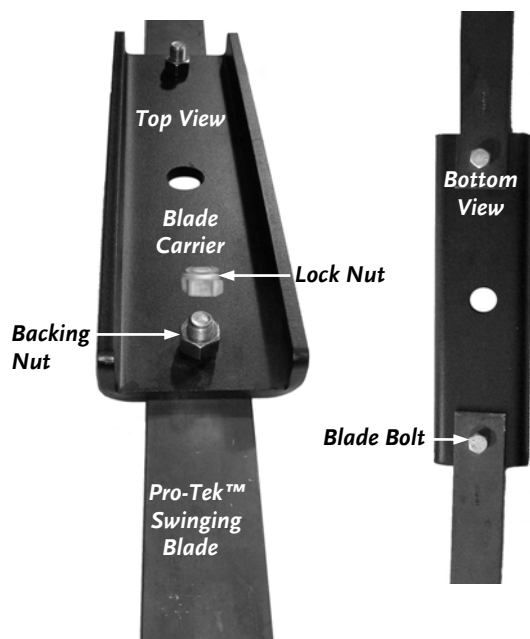

Figure 23
1. Using two 15/16" Wrenches, remove the Top Lock Nut (right-hand, regular thread), the Backing Nut, and then the Blade Bolt followed by the Pro-Tek™ Swinging Blade (**Figure 23**).
3. Install the Backing Nut until it seats finger tight against the Blade Carrier to allow for the Blade Swinging action (**Figure 23**).